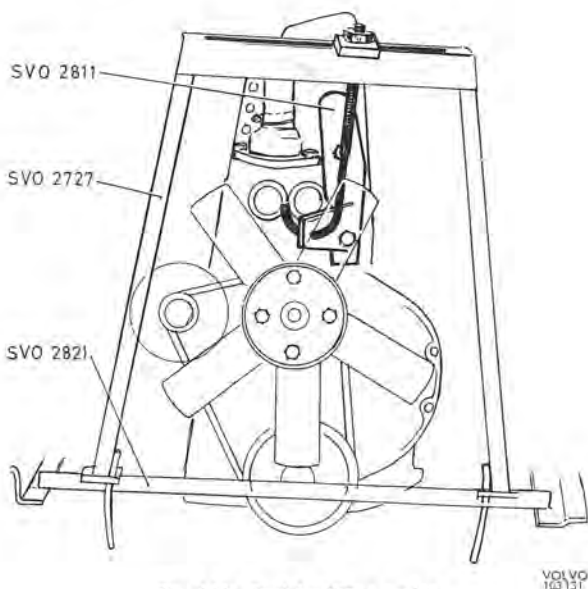

Fig. 6-14. Tool for lifting engine
1. Install the lifting plate 2811 on the engine and also lifting tool 2727 together with the extension rod 2821, see Fig. 6-14. Raise the engine until the weight is taken off the front engine mounting. Temporarily block the vent-hole in the brake fluid container cover to reduce leakage. Remove the hub caps and loosen the nuts for the front wheels a couple of turns.